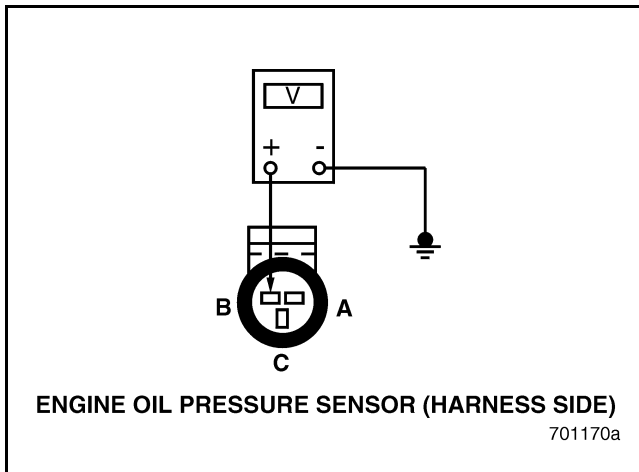

Figure 11
4. Measure the voltage between EOP Sensor harness connector pin B (reference voltage line) and a good ground (see Figure 11).